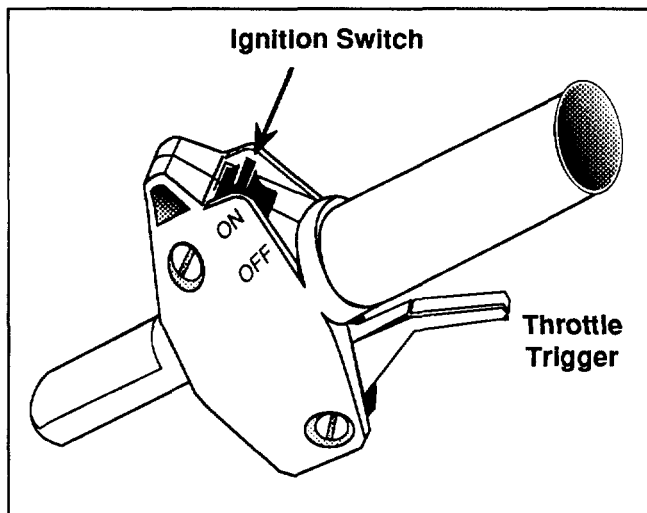

Fig. 5
2. **MOVE THE IGNITION SWITCH "ON"**! (Fig. 5).
6. **SQUEEZE THE THROTTLE TRIGGER** (Fig. 5) **TO FULL THROTTLE**. Hold the trigger against the hand grip.
11. **TO STOP THE ENGINE**, move the **IGNITION SWITCH** to the "OFF" position (Fig. 5).